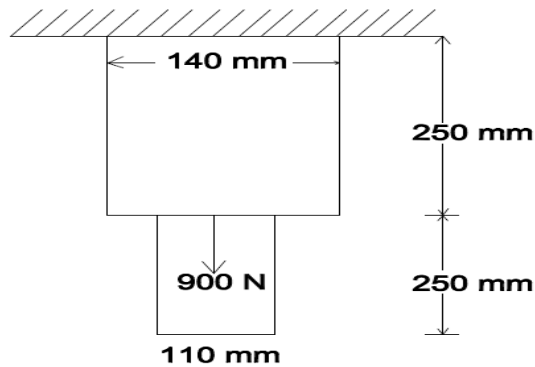

Figure 1
6. A thin plate of uniform thickness 25mm is as shown in the figure 1. In addition to the self weight, the plate is subjected to a point load as shown. Analyses the plate after modeling with four elements and find displacement at various points, stresses at various points and support reaction. $E=2 \times 10^5 \text{ MPa}$, mass density $\delta=0.85 \times 10^{-4} \text{ N/mm}^3$.